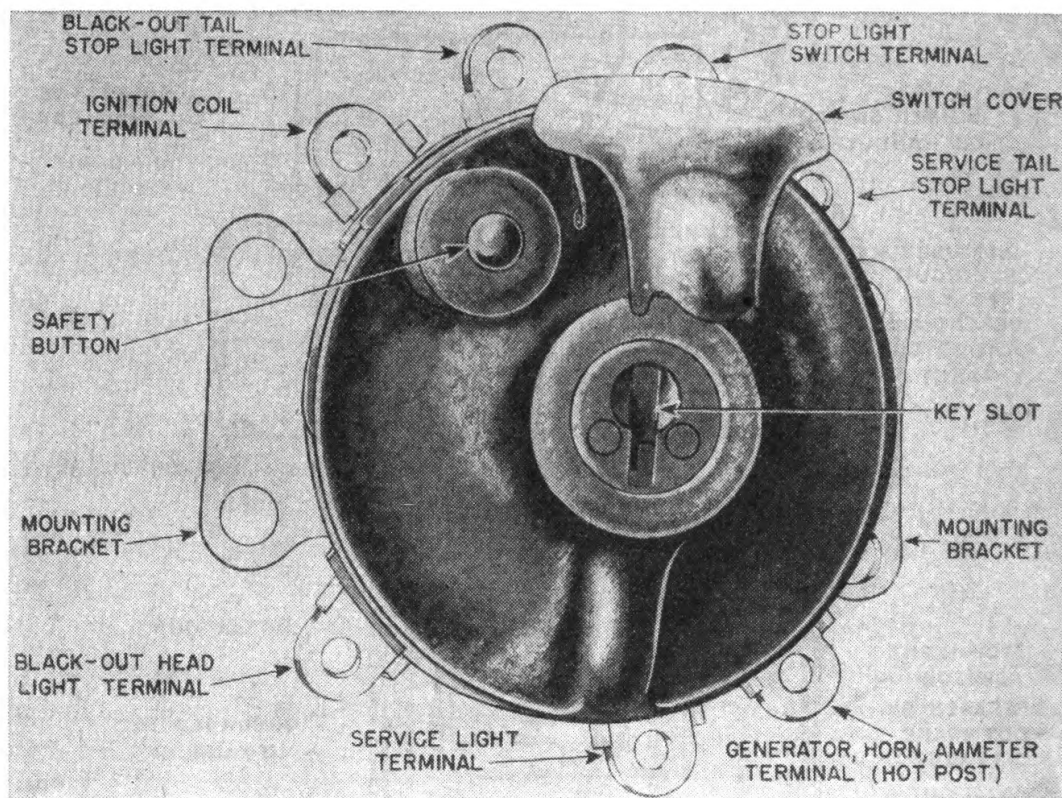

FIGURE 90.—Standard military motorcycle ignition and lighting switch.
*b. Locking switch.*—(1) Latest Army motorcycles are equipped with a key locking switch (fig. 90) for the ignition and lights. It uses the standard military No. H-700 key. With this switch it is not necessary to leave the key in its position during operation. After the switch is unlocked, the key may be removed, leaving it unlocked. However, the switch should be locked before leaving the motorcycle. A hinged cover protects the switch from moisture and dust when the key is removed.
(2) When the winged knob is turned as far as possible to the left, the switch is in "off" position and no current flows in any circuit of the electrical system. Turning the knob one notch to the right closes